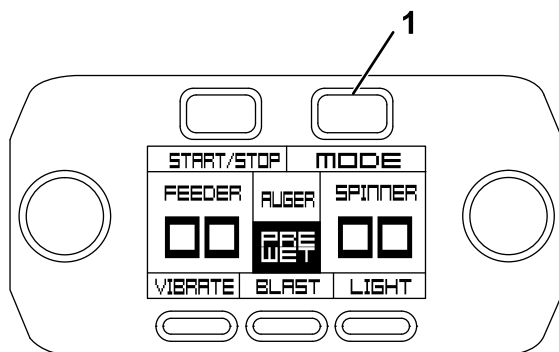

Figure 43
1. To set the flow speed, press the Mode button on the controller (Figure 43).